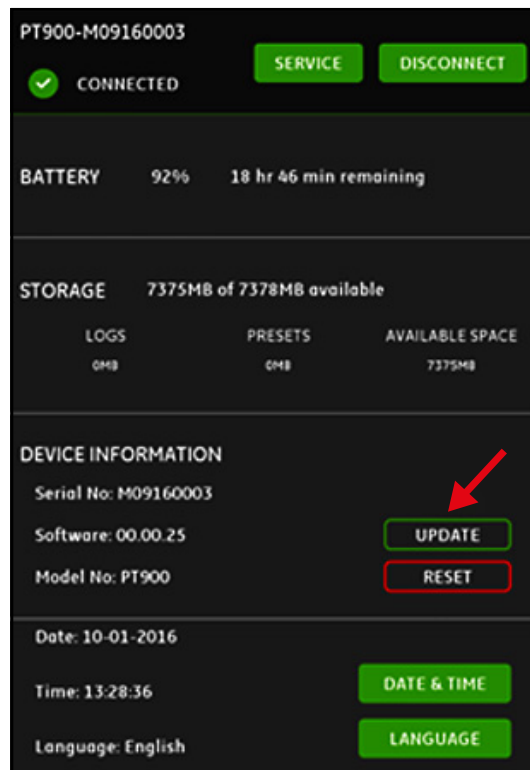

Figure 130: UPDATE Button in TRANSMITTER Menu
4. In the APP TRANSMITTER menu, click the UPDATE button (see *Figure 130* below) to start the update.